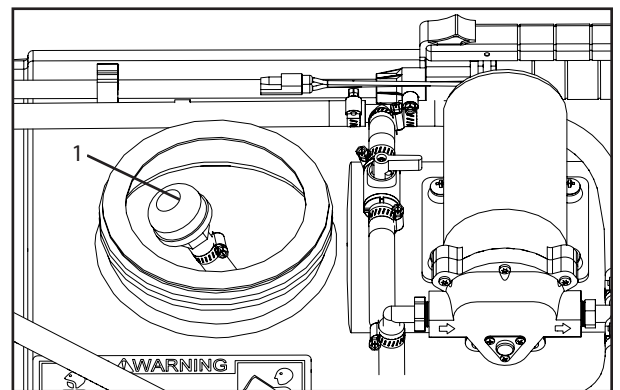

Figure 1: Checking Suction Screen
- The suction strainer (1) (Figure 1) located on the end of suction hose should be inspected and rinsed off on a regular basis.
2. Engage the pump by turning on the power switch (2) (Figure 1, pg 6), then spray with the boom and the spray gun. NOTE: Be sure that the antifreeze has been pumped through the entire system including all spray nozzles.